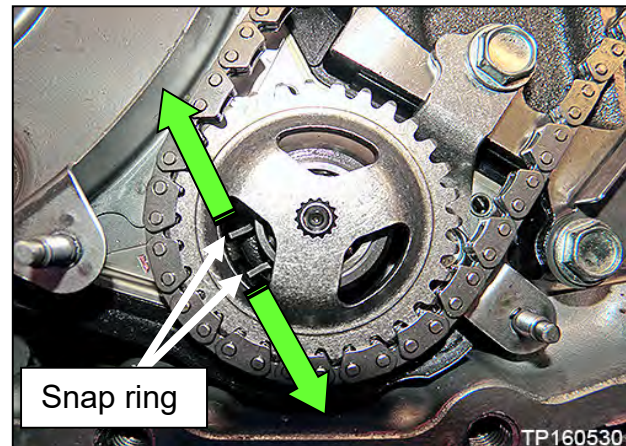

Figure 42
- Spread the snap ring to remove the sprocket (Figure 42).